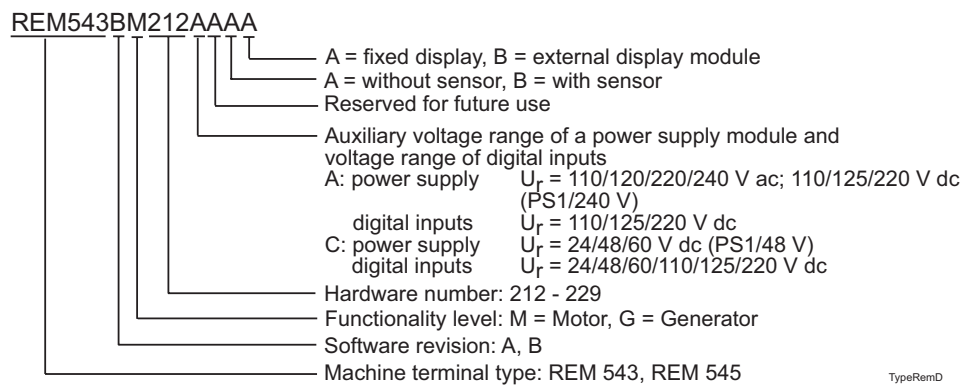

Fig. 6.1.-1 Order number of REM 54\_
- Order number (see Figure 6.1.-1 below)
Each REM 54\_ machine terminal has a specific order number that identifies the machine terminal type as well as the hardware and the software as described in Figure 6.1.-1 below. The order number is labelled on the marking strip on the front panel of the machine terminal delivered, e.g. Order No: REM543BM212AAAA.